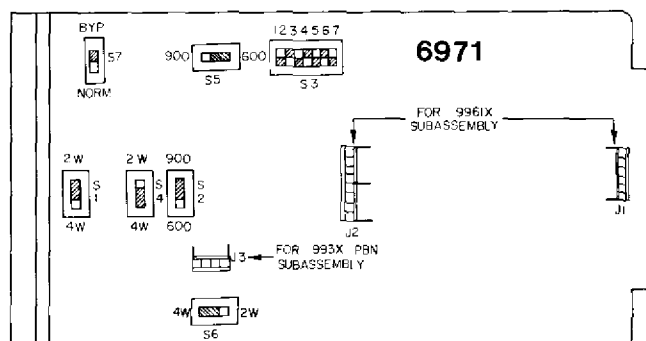

figure 2. Switch locations
3.05 All options in the 6971 are selected via slide or DIP switches located as shown in figure 2. Table 2 lists these options and indicates the option choices, which are described below.